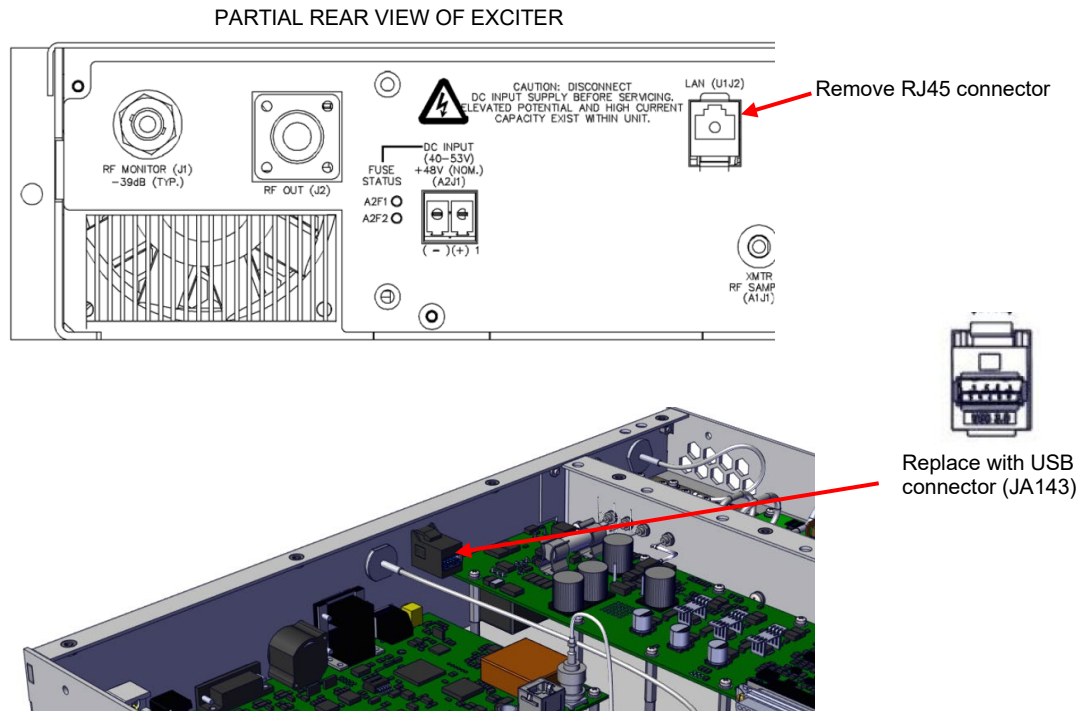

Figure 4: Replacing the RJ45 connector with a USB connector
- For NAE107*/01 (digital) exciters, remove the Cat5e cable (W4) connected between J1 of the Exigine PWB (A8) and J1 (inside) of the rear panel LAN connector U1. See Figure 4 to locate the LAN connector. Note: NAE107* (analog) exciters do not contain this cable.
- Obtain the USB connector adapter (Nautel Part # JA143) from the Field Modification kit. On the inside of the exciter's rear panel, install the USB connector adapter in the LAN connector's position (see Figure 4), pressing its tab to facilitate installation.